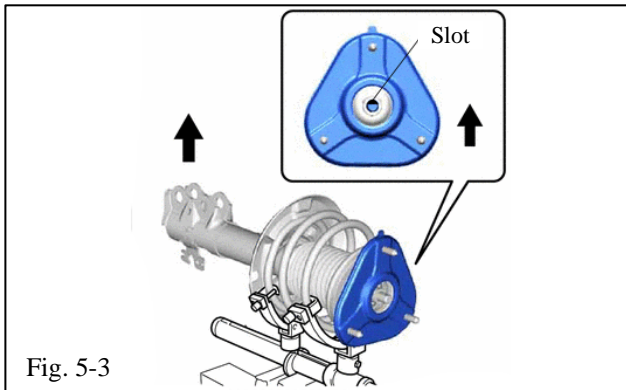

Fig. 5-3
- (c) Install the front suspension support sub-assembly as shown in the illustration (Fig. 5-3).